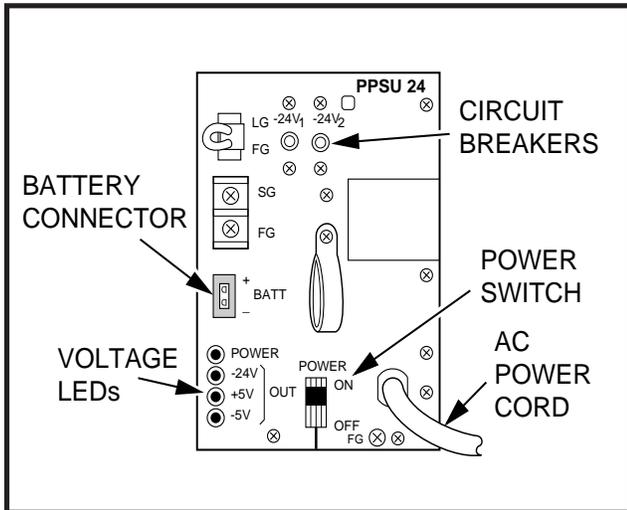
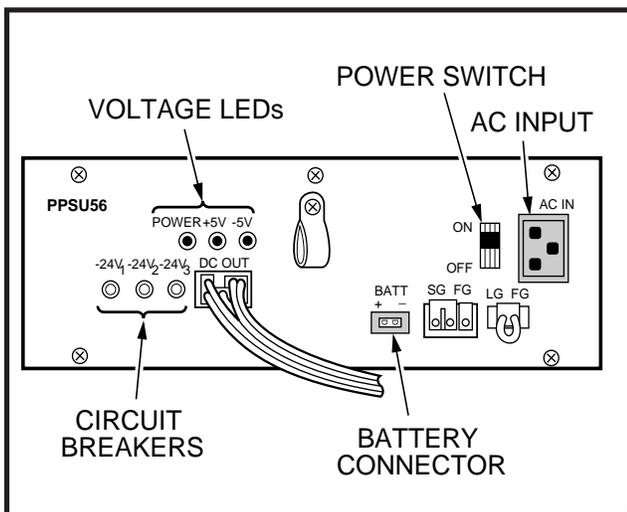
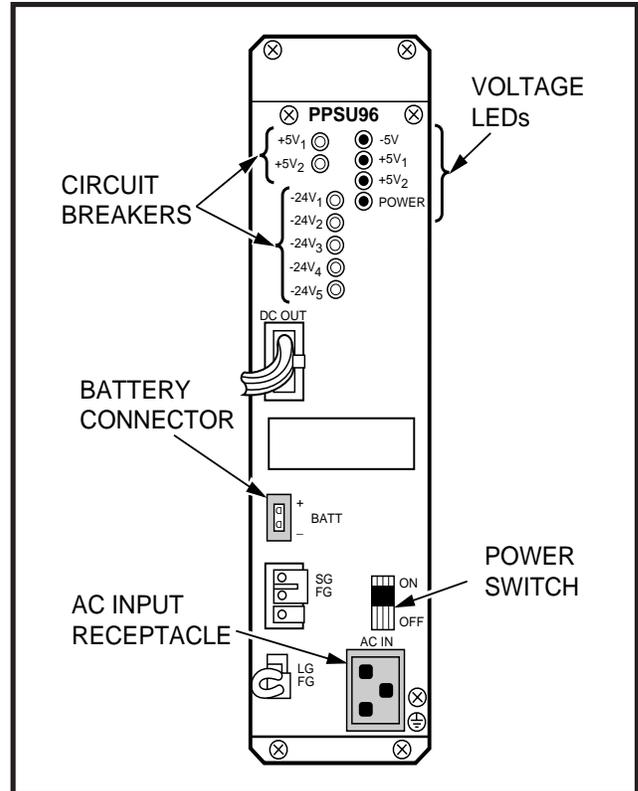

FIGURE 2-5
FIGURE 2-6
FIGURE 2-7
4.00 STRATA DK systems incorporate single-chassis, switching-type power supplies. The power supplies for the three models are functionally identical (except for power capacity), although they differ in appearance due to cabinet sizes and mounting considerations. The DK24 model uses a PPSU24 power supply (Figure 2-5), DK56 uses a PPSU56 (Figure 2-6), and DK96 uses a PPSU96 (Figure 2-7).